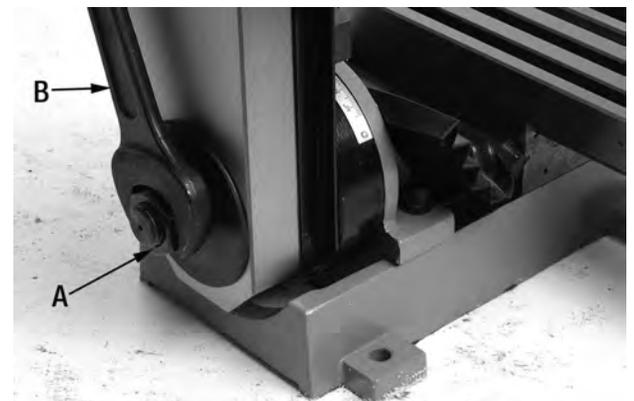

FIGURE 11
1. With one hand hold the head/column assembly, with your other hand, loosen the large hex. nut (A) Fig.11 using the large 36mm wrench (B).
2. Position the head/column assembly in the desired angle, using the angle scale in front of the column as a guide. Once positioned in the desired angle, retighten the large hex. nut (A).